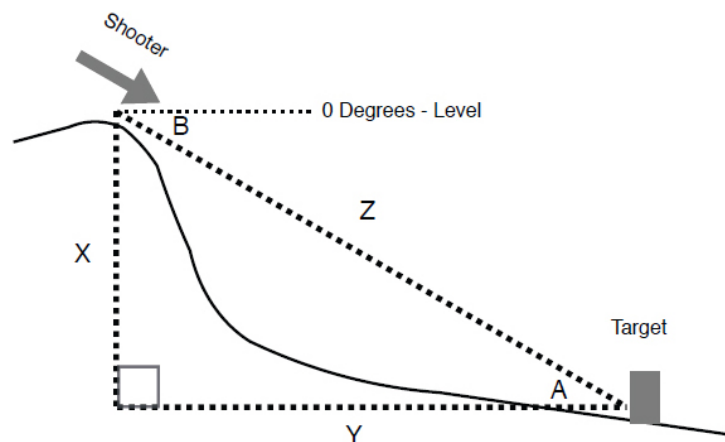

Figure 19.2-1
In the simplest terms possible, the bullet will cover more distance to the target at an angle than it would cover side-to-side across the ground. In Figure 19.2-1 you can see a triangle made from the elevation of a shooter on a hill (X), the distance to the target down the hill (Y), and the line of sight to the target (Z). Note that the line of sight is longer than the horizontal distance across the ground. Even though the bullet will travel the full distance to the target (Z), gravity will only affect it as if it traveled the shorter horizontal distance (Y). The trick, then is to figure out the length of the horizontal side of the triangle.
Another trigonometric rule to remember is that alternate angles are equal. All you need to know for this is that angle B in Figure 19.2-1 is the same as angle A. You've measured angle B to be 30 degrees. Now, with knowing the actual distance to the target and the angle, we can figure out the horizontal distance. This distance is the shorter distance that we use for elevation instead of the real distance; I call this the "angle distance."